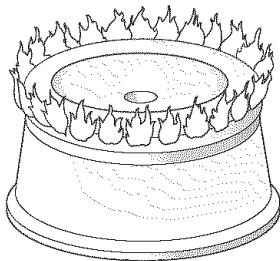

Figure 11
1. Proper Air Adjustment (figure 11)